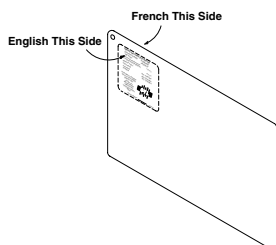

Figure 10 - Applying Conversion Labels
1. Apply the English and French conversion labels over existing certification labels (see **Figure 10**). Existing certification labels are located on the lighting instruction plate inside the gas valve compartment area. With permanent ink, print the previous model number on the label in the space provided (see **Figure 11**).